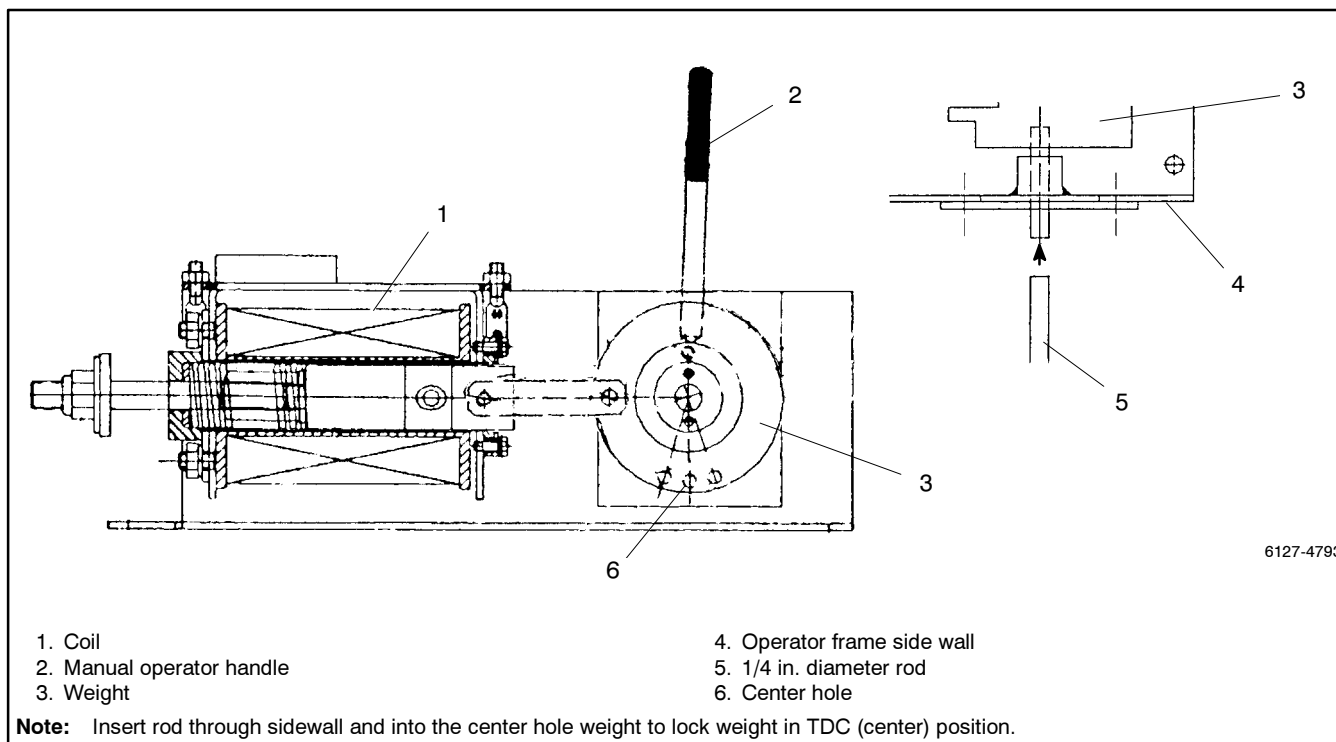

Figure 9-3 Rod Inside of Solenoid Operator Weight
3. Put the switch in the center position (TDC). Use the manual handle to open the contacts until a 1/4 in. diameter rod (drill bit) can be inserted into the *center* hole in the side of the weight. It will hold the operator in the top-dead-center position and the contact shaft in a mid position. See Figure 9-3.
1. Close the bottom main contacts. Remove the 1/4 in. rod while using the manual operator handle to put the switch in the *normal* position (bottom contacts closed). See Figure 9-3.